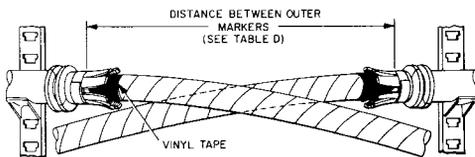

Fig. 15—Vinyl Tape Collars Placed
3.10 Make a collar over the cable core with two layers of vinyl tape for each cable end. Place the first layer with adhesive side out, lapped about 1/4 inch; then, one layer with adhesive side in. Slide the collars back under the tabs and recheck the distance between outer markers (Fig. 15). Remove the outer markers.